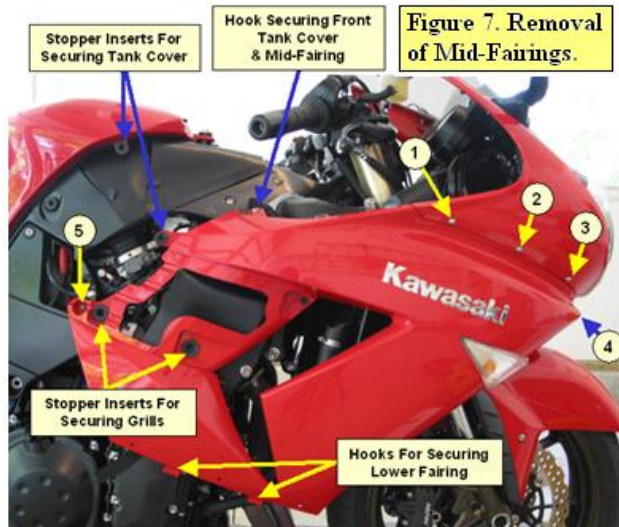

Figure 8. Remove Muffler Bodies
- The quick rivet is located in the front of the fairing (3) and holds the left and right panels together. Remove the quick rivet. This will release the right panel from the left panel.
- Note that the top of the fairing incorporates slots into which hooks at the bottom of the mid fairing (red bodywork) fit (Fig 8). Pull the bottom of the lower fairing panel away from the bike and then downward to clear the hooks from the slots. The right side lower fairing should now separate easily from the mid-fairing.
- The fairing grill is now held in place by three stoppers inserted into the mid-fairing (Fig 8). Pull the fairing grill away from the mid-fairing to release and remove.
STEP 6: REMOVE THE TANK COVER: The tank cover is held in place by three fasteners (Fig 6). Note that fasteners 1 and 2 were removed in Step 5. Remove fastener 3. The tank is now held in place by stoppers and hooks located on the right and left side (Fig 8). Pull the tank cover evenly in an outward direction on both sides to clear the stoppers and hooks. Then lift the tank cover to remove it from the bike frame.
- Remove the bolt at location 2 (Right side only) (Fig 8).